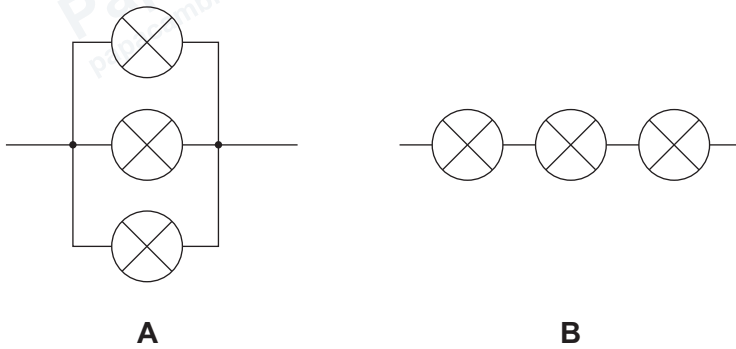

Figure 9.1
- 9 Figure 9.1 shows two methods of connecting three signal lamps in a circuit.